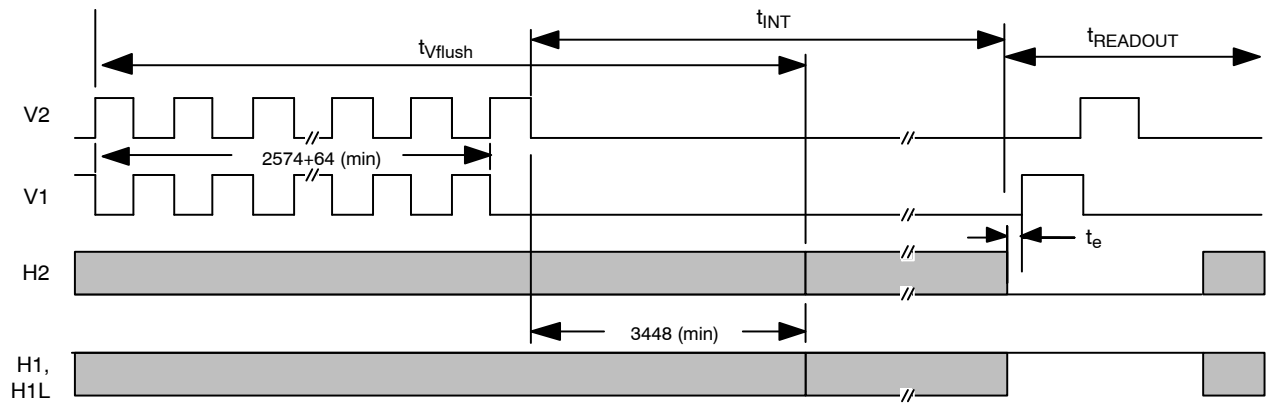

Figure 19. Power-Up Flush Cycle
6. See Figure 19 for a detailed description.